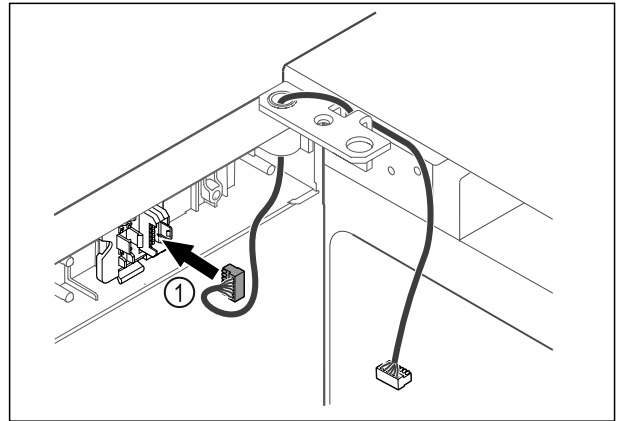

Fig. 40
- ▶ Put the plug Fig. 40 (1) in the plug holder.